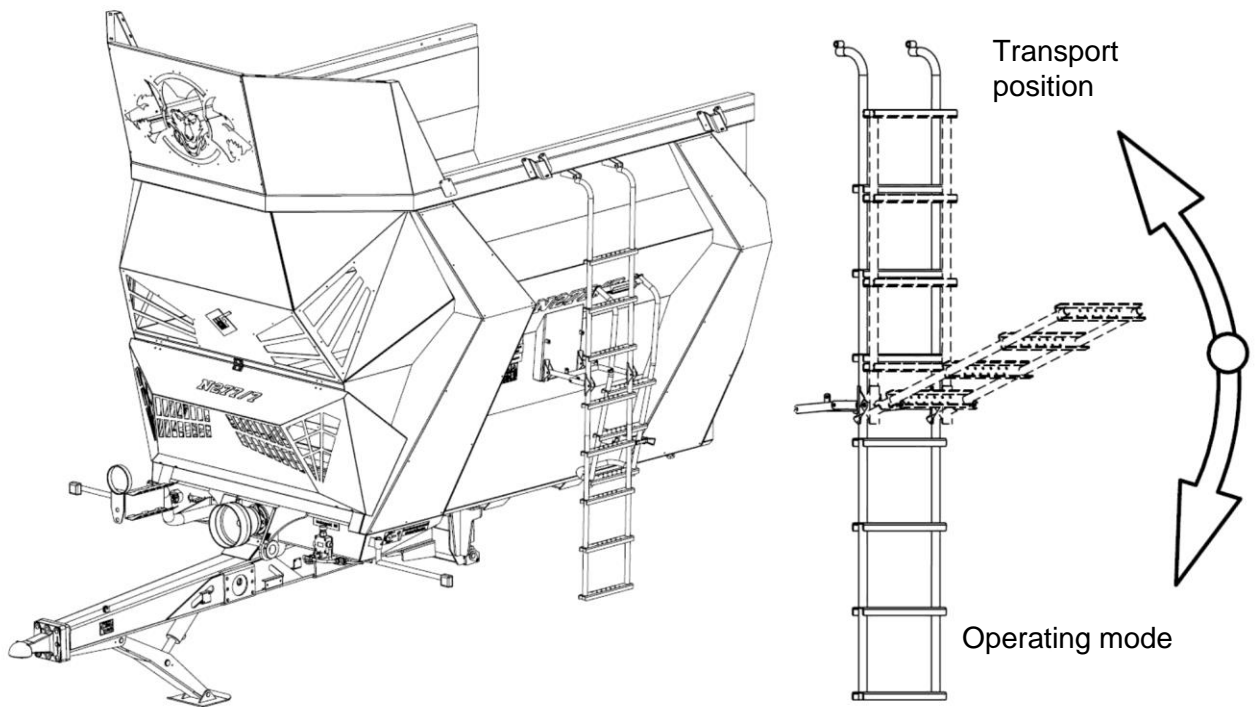

Fig. 9. Unfolding the ladder
The figures (Fig. 9, 10, 11) show a folding ladder and an internal ladder that allows access to the load body for cleaning maintenance or repair purposes only.
1. Unfold the external ladder to the working position (Figure 9).
2. Unfasten the rubber tensioning element (1).
3. Unfasten the ladder from the lower bracket (2).
4. Slide the ladder up (3).
5. Place the ladder inside the box in the brackets provided (5).